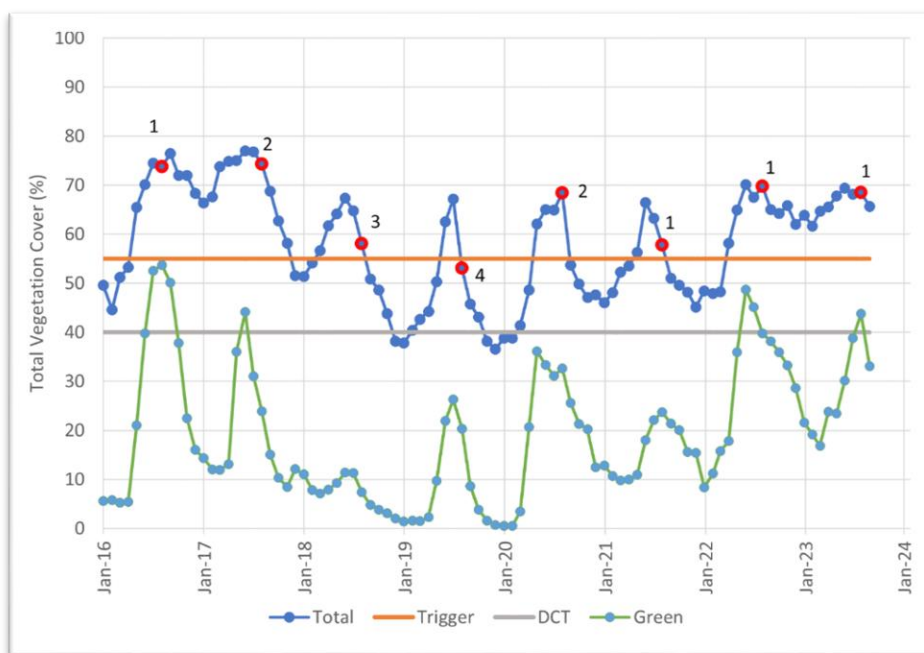

Figure 1: RaPP time series for Curragh and management action taken post-August
- **Supplementary feeding in the paddock.** Pasture quality and or availability is less than desired for the stocking rate. This occurred in 2017 when August's total cover levels were above 55%, but the availability and quality were low for the desired stocking rate. This lower quality and availability in 2017 were related to the green cover shown in Figure 1, where only three months in 2017 were above 30% green. Again, in 2020, total cover was above 55%, but only four months above 30% green, but not above 40%, as in 2017.
- **Stock containment and feeding until seasonal conditions change.** This occurs when the growing season fails for two years. This happened in August 2019 when the cover was <55% and the previous 31 months had 28 months with < 20% green growth (Figure 1). The lack of green growth resulted in a rapid drop in cover to below 40% in summer 2019-2020 (Figure 1).